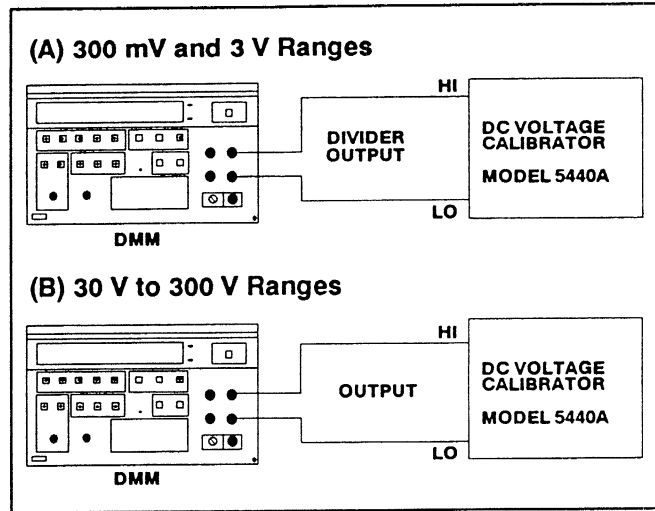

Fig. 3-1. DC Volts Calibration Configuration.
k. Repeat steps d through j for the remaining DCV ranges using Table 3-2 and Fig. 3-1 as a guide.